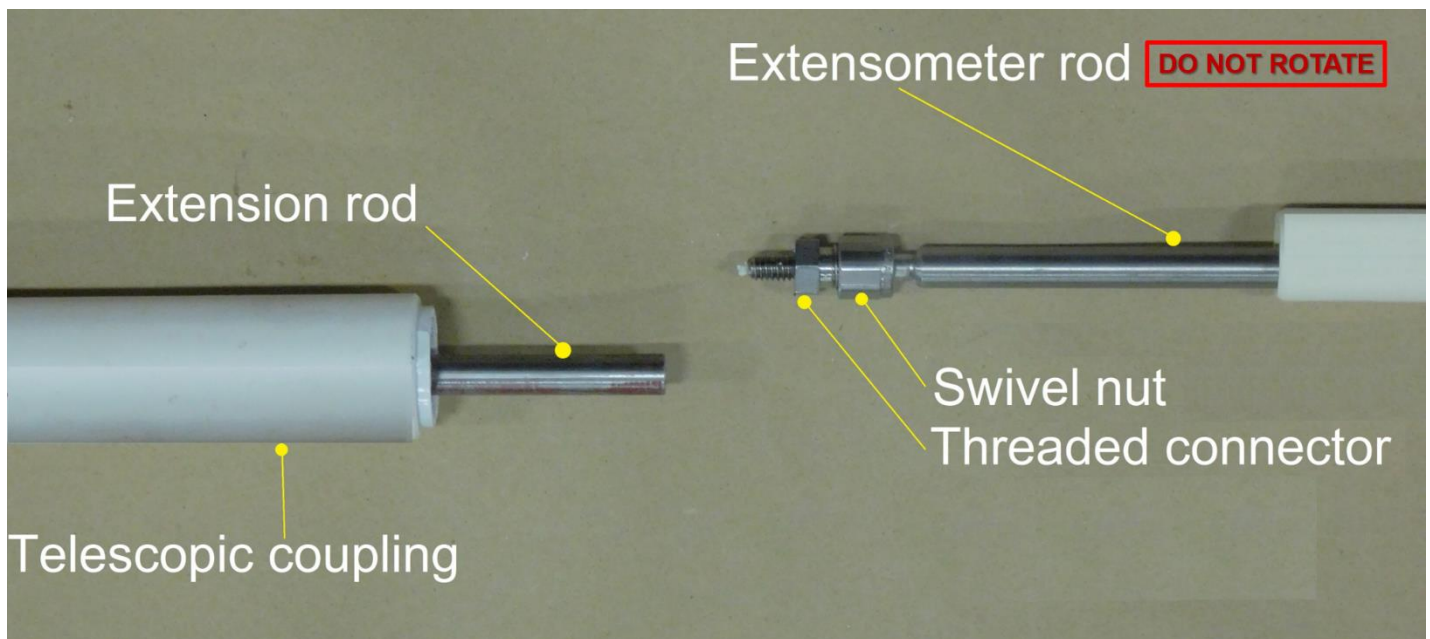

FIGURE 4-11 SWIVEL CONNECTION
- 14 Loosen the threaded connector (Figure 4-11) from the swivel nut. The swivel nut should also be loose. Gently thread the extension rod onto the threaded connector, using Loctite to secure. Turn the threaded connector towards the swivel nut. Thread the swivel nut back onto the extensometer rod until hand tight.